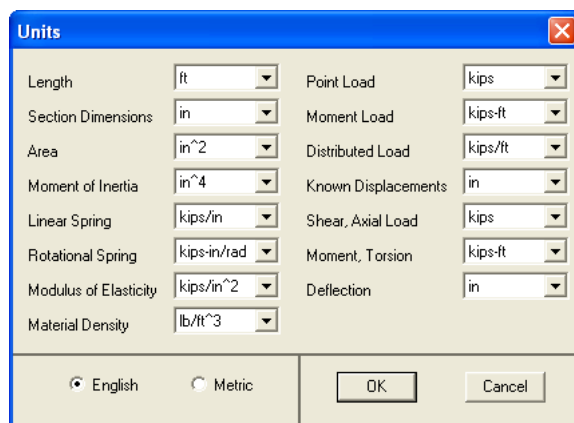

Figure 3-11 Units dialog box
- From the **Define** menu, select **Units**. The dialog box of Figure 3-11 appears.